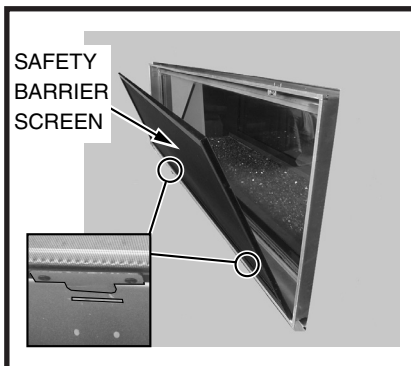

Figure 4: Safety screen removal.
1. Remove Safety Barrier Screen (Figure 4).